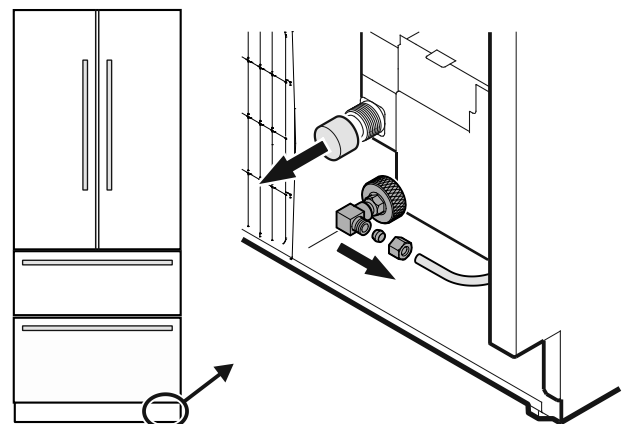

Figure 17
5. Remove the cover from the solenoid valve (Figure 17).